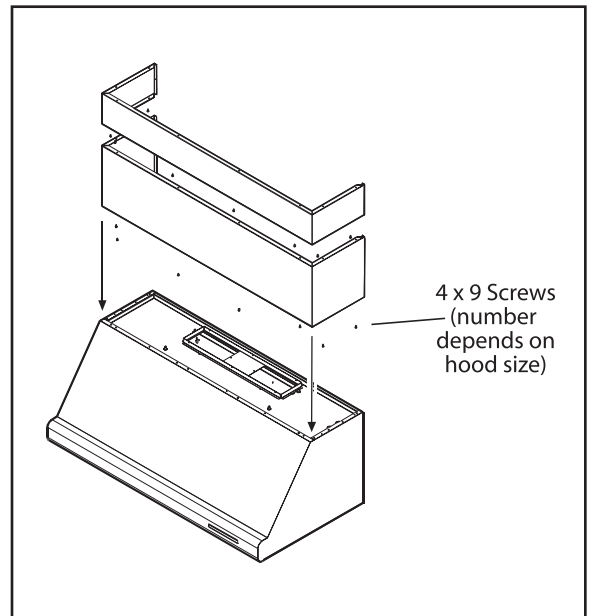

Figure 9 PHE & PH_Z
Optional duct covers shown in Figure 9 may be used to fill the space between the hood and ceiling in wall mount installations. 6" and 12" high duct covers are available and may be ordered separately.
2. Attach the duct cover(s) to the hood using sheetmetal screws as shown in Figure 9.